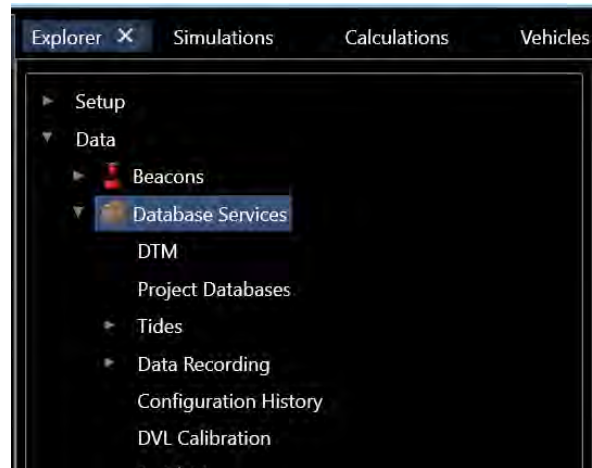
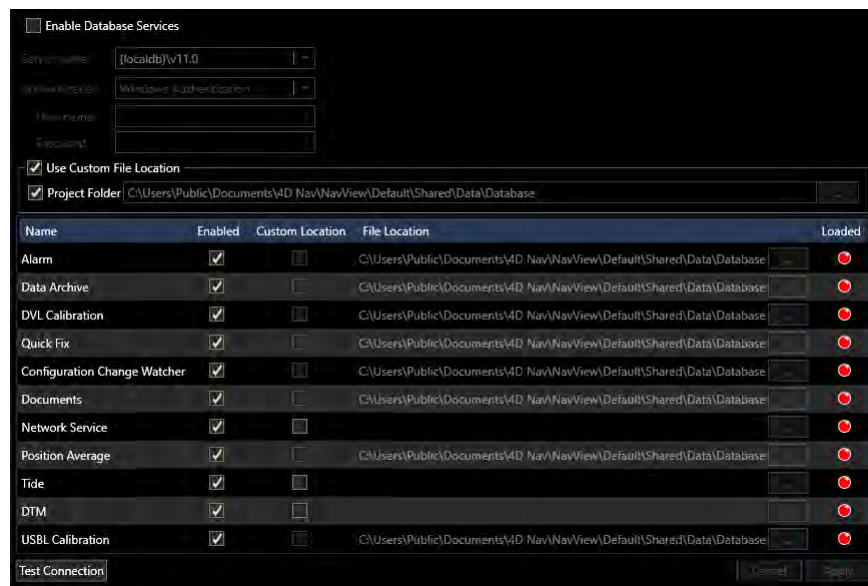

FIGURE 14-1 DATABASE SERVICES - EXPLORER
FIGURE 14-2 DATABASE SERVICES - SERVER CONFIGURATION
NavView manages the databases and the features that use them, including logging and querying across multiple databases, in the Database Services section of the Explorer window under the Data branch (see Figure 14-1).
1. Open the Explorer window and navigate the tree to select **Database Services** as shown in Figure 14-1 to access the connection configuration shown in Figure 14-2.